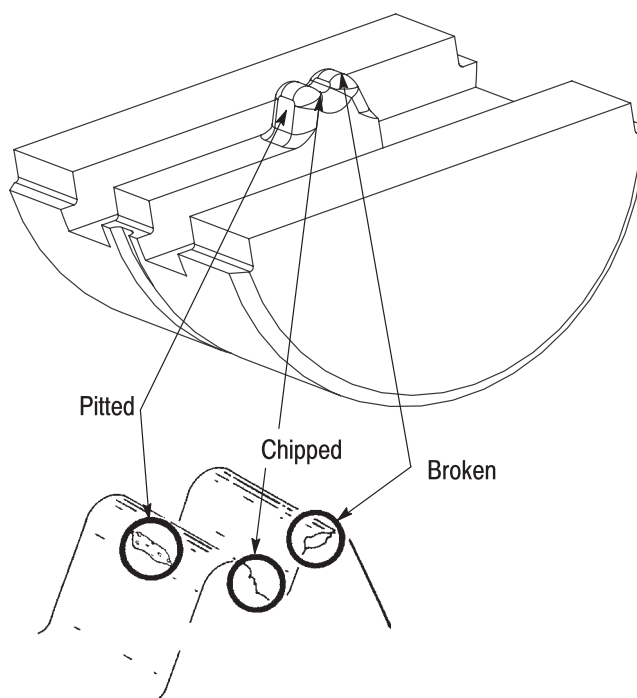

Figure 6
2. Check all surfaces for wear. Inspect the crimp area for flattened, chipped, cracked, worn, or broken areas. See Figure 6. If damage is evident, the die must be replaced.
A. Visual Inspection (Figure 6)